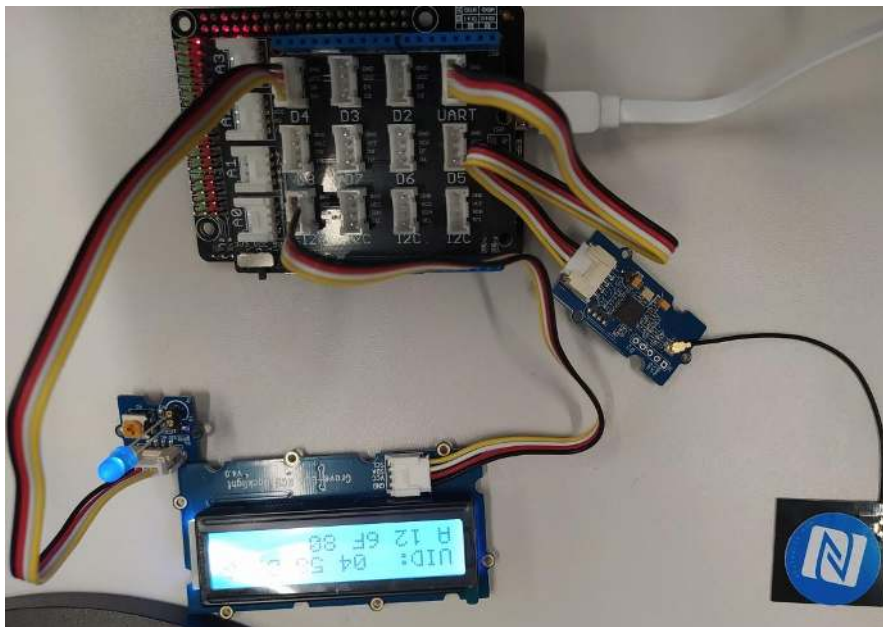

Figure 11.1: The NFC Setup
1. Plug an NFC tag onto or near the Grove NFC module antenna (see Figure 11.1).